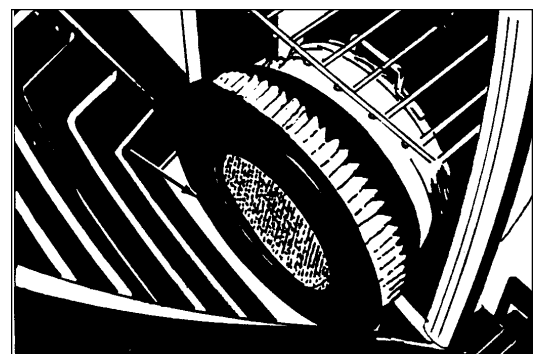

Figure 9
4. Push the Micro-Staphicidal filter on the base of the motor. See figure 9.